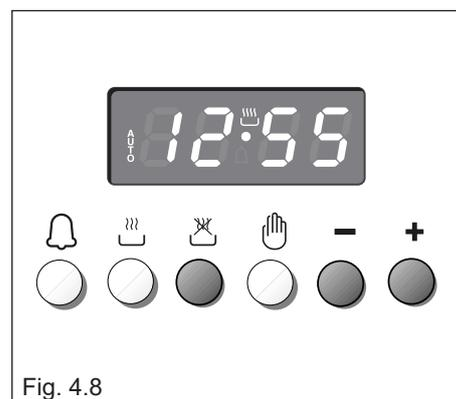

Fig. 4.8
2. Set the end of the cooking time by pushing the  button and the  $+$  button to advance, or  $-$  to go backwards if you have passed the desired time (fig. 4.8).